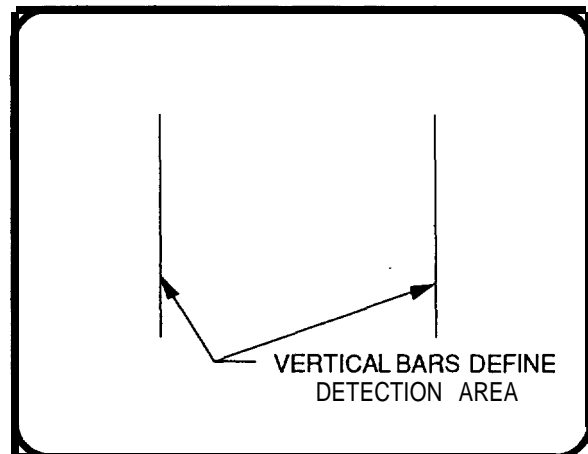

Figure 4 - On-Screen Display
DISPLAY (+/-) - This two position toggle switch activates (+) or deactivates (-) display of the two vertical bars indicating the area of the picture in which motion is detected. (See Figure 4, On-Screen Display, page 4.) It does not otherwise affect the operation of the unit. The activated (+) position is normally used unless public display of the area in which motion is being detected is inadvisable.
- 4) Turn the DISPLAY switch to active (+). Note the twin vertical bars, as shown in Figure 4, On-Screen Display. These bars define the rectangular area of the picture within which motion is detected. The size of this area may be adjusted using the front panel screwdriver controls for vertical (VERT) and horizontal (HORIZ) position (P) and size (S). Set the sensitive area to cover the region of the picture within which motion is to be detected.
- 7) Sensitivity; the most critical adjustment, is adjusted using the screwdriver control SENS. The setting should be low enough to avoid false or unwanted alerts caused by normal motions such as birds or blowing trees, but high enough to detect motions of interest. The optimum setting is best determined by experiment at the site at which the 1461 is to be used. Start with the as-shipped, midrange setting. Simulate anticipated motions which should and should not cause an alert. If the results are unsatisfactory: raise (CW) or lower (CCW) the sensitivity, reset the unit with the RST button, and repeat the simulated activity until satisfactory performance is obtained.